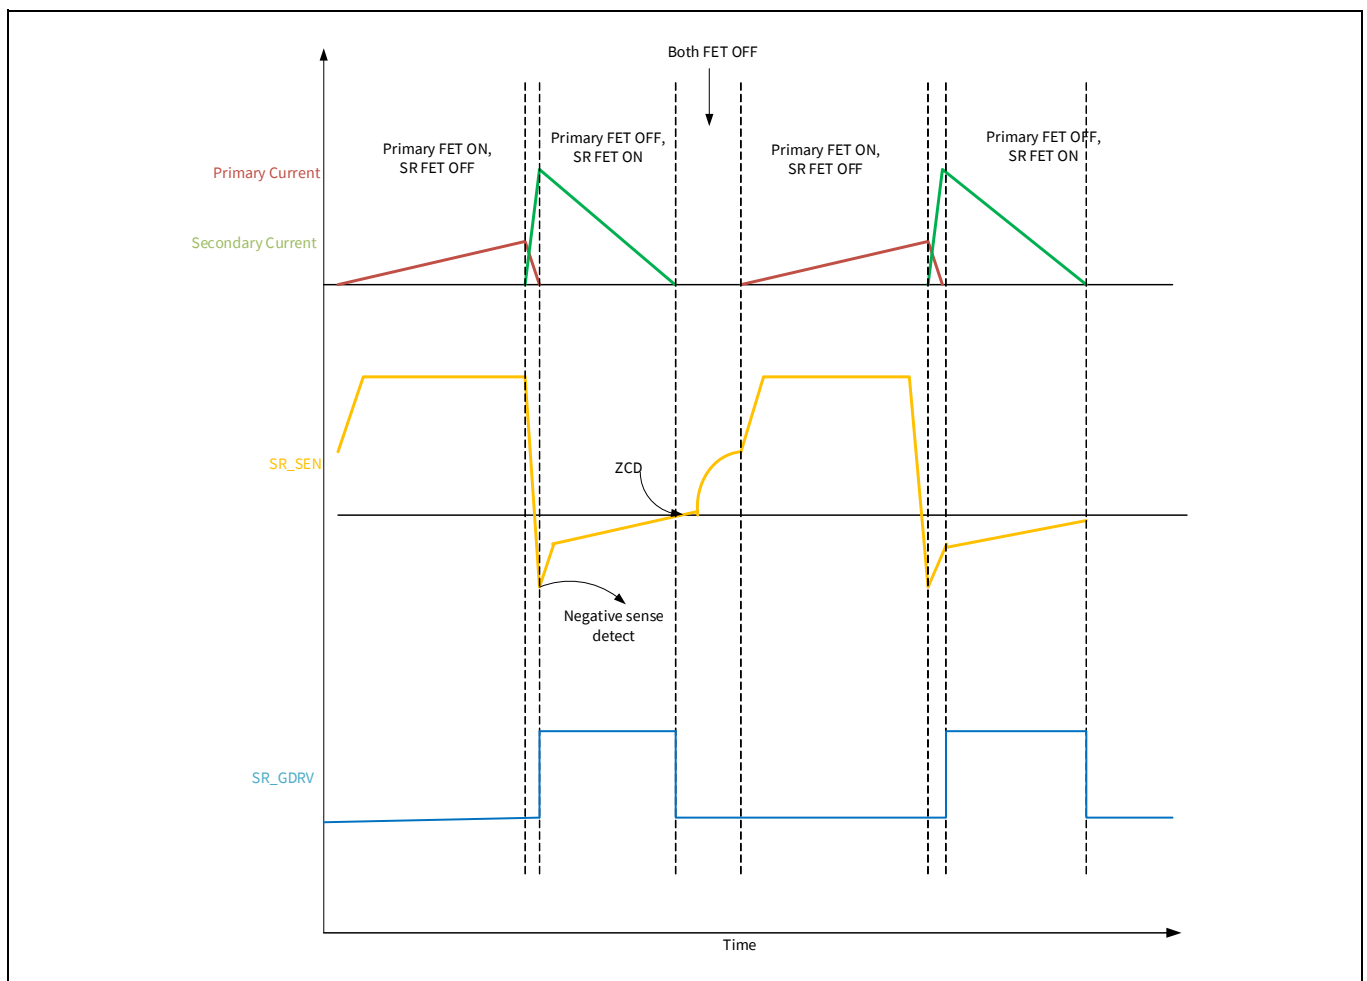
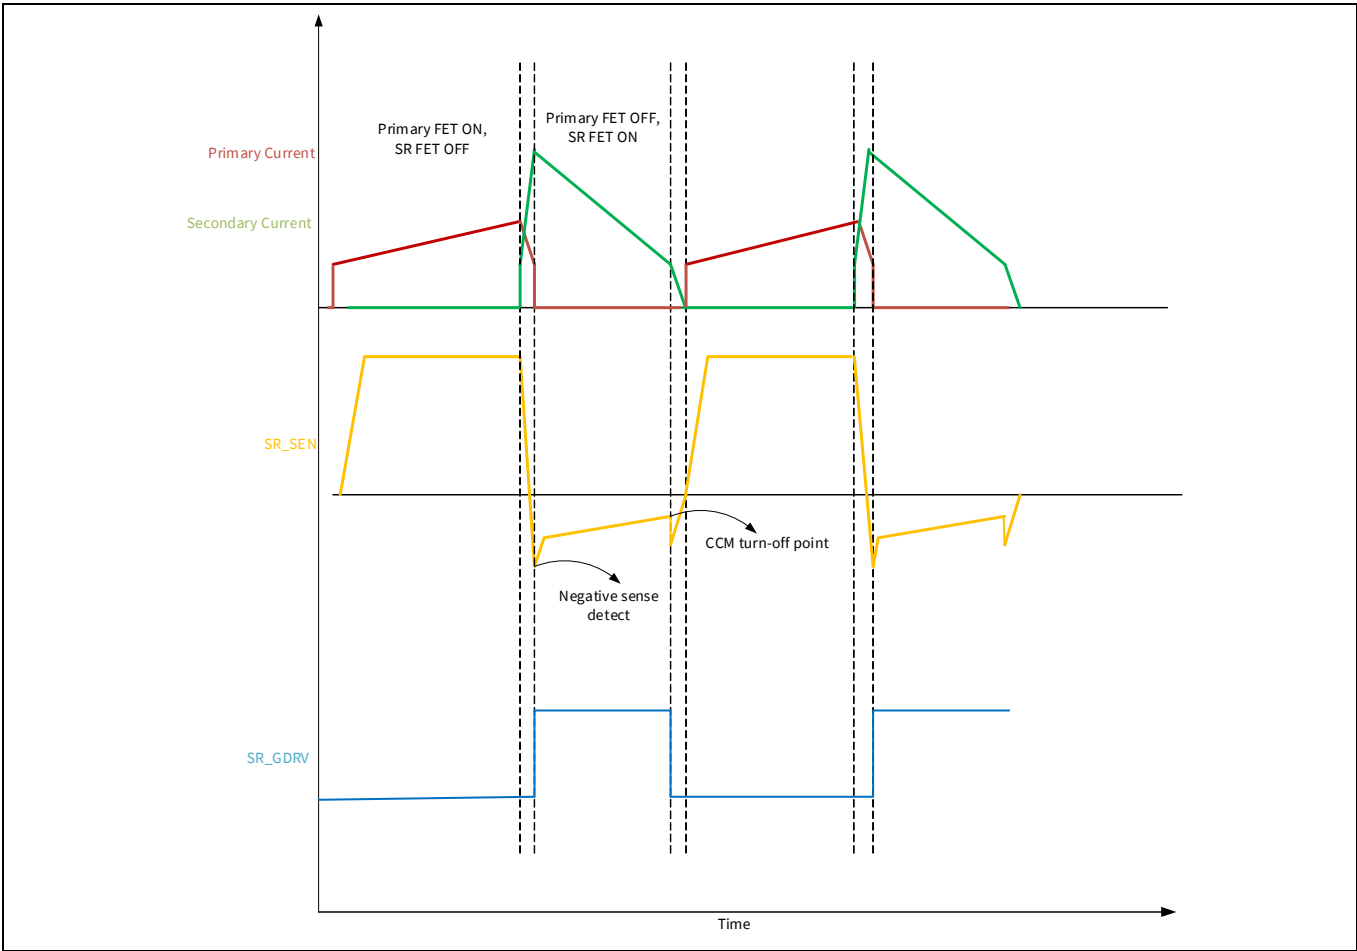

Figure 3 SR_SEN and SR_GDRV in CrCM mode
Figure 5 SR_SEN and SR_GDRV in CCM mode
PAG2S-AC supports synchronous rectification (SR) in both DCM and CCM modes. The SR sense block supports negative sense detect and ZCD. Figure 3 through Figure 5 show the SR_GDRV functionality in CrCM, valley switching, and CCM modes. The SR controller has a turn-on propagation delay of 40 ns (typ) and a turn-off propagation delay of 25 ns (typ).